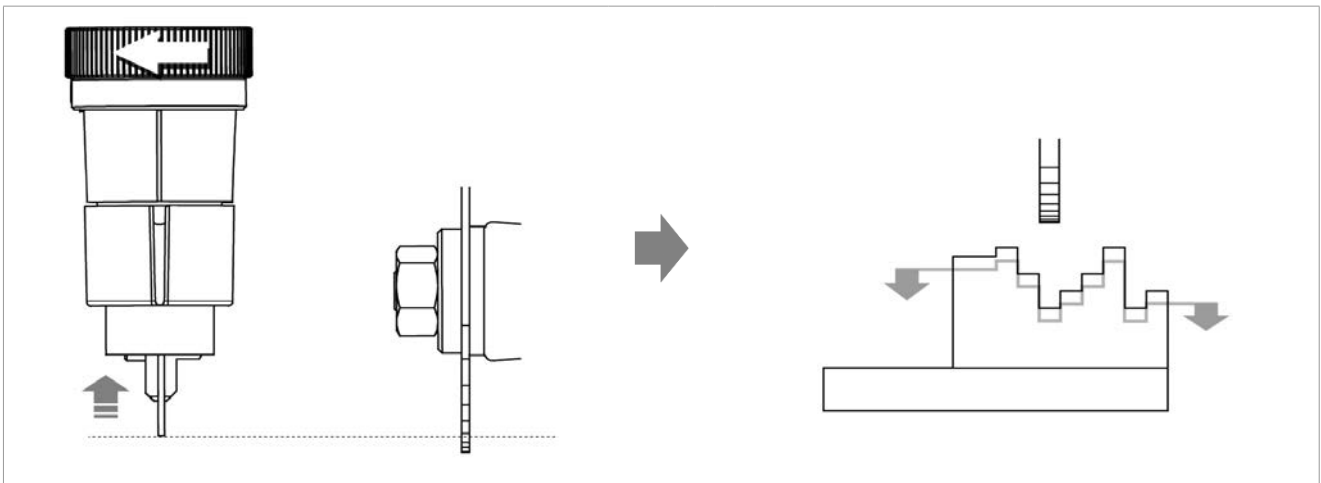

Fig.44
- turn the ring nut (D2) anticlockwise to move the tracer point back (deeper cut) (Fig.44).